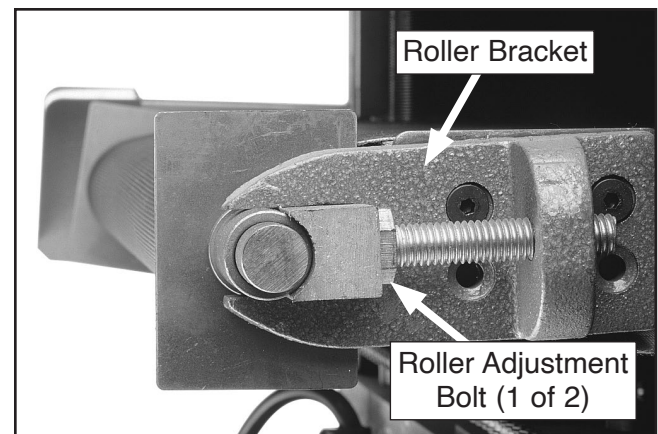

Figure 39. Location of conveyor roller adjustment bolts.
- If belt tracks toward right, rotate right-side roller adjustment bolt (see **Figure 39**) *counterclockwise* to move belt left.
- If belt tracks toward left, rotate right-side roller adjustment bolt (see **Figure 39**) *clockwise* to move belt right.